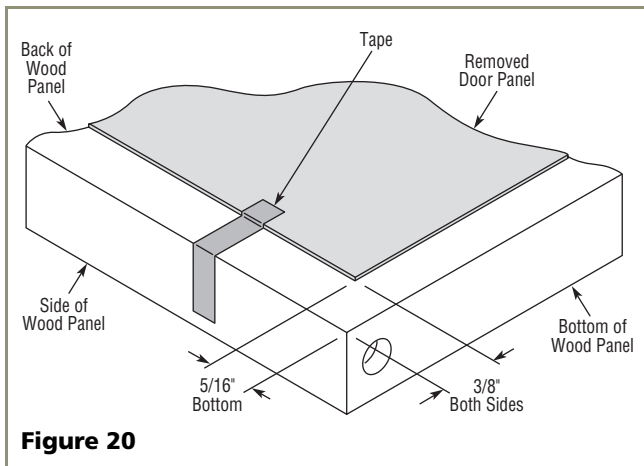
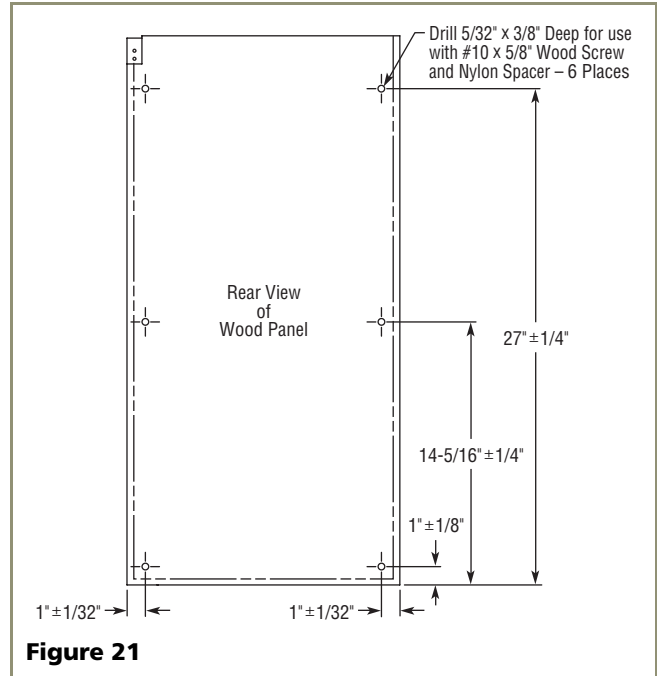

Figure 20
Figure 21
2. Place and tape the existing door panel on the back of the overlay panel (see **Figure 20**) and drill holes through both panels according to **Figure 21**. Remove tape adjoining the panels and enlarge the six holes in the overlay panel using a 0.201" (#7) drill.
Note: If door is adjusted correctly, but panel is not square with the adjacent cabinets, slight adjustments can be made by drilling the holes in the vinyl coated steel panel slightly oversized. See **Figure 21** on **Page 10**.